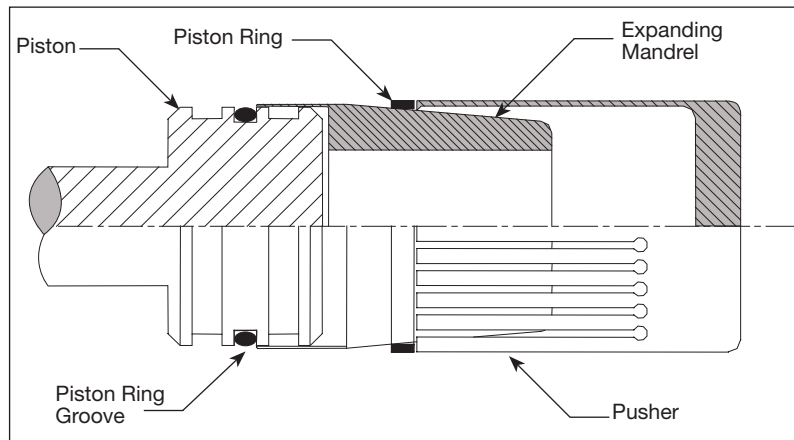

Figure 2-19. Installation of piston seal with tooling
5. Place the seal onto the expanding mandrel, and using hand pressure or a pusher, if necessary, gently push the seal along the taper until it snaps into place (Figure 2-19).